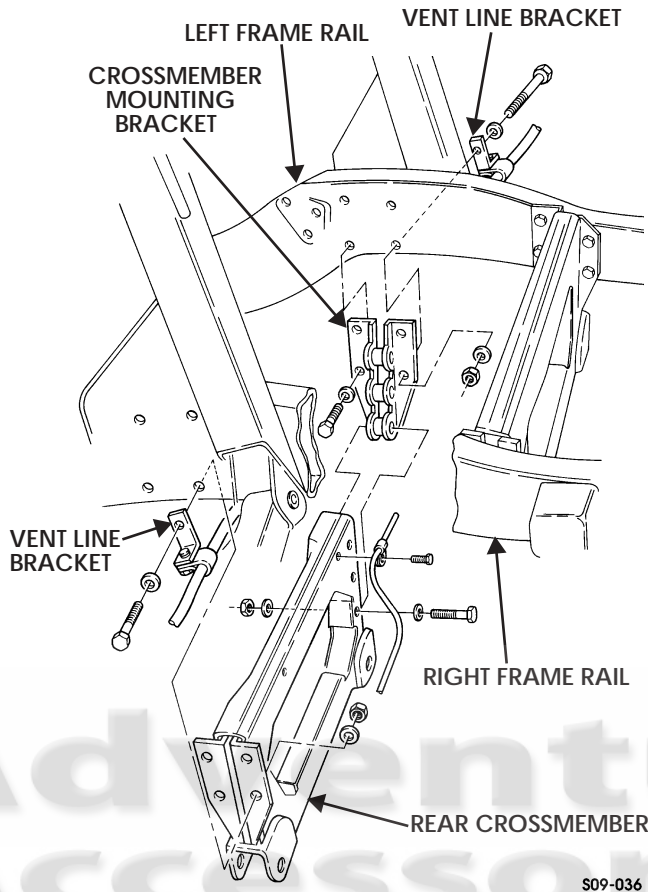

Figure 9-48: Rear Crossmember
9. Remove three capscrews and clamps from two vent line brackets and crossmember (Figure 9-48).
1. Install left and right rear crossmember mounting brackets on rear crossmember (Figure 9-48).